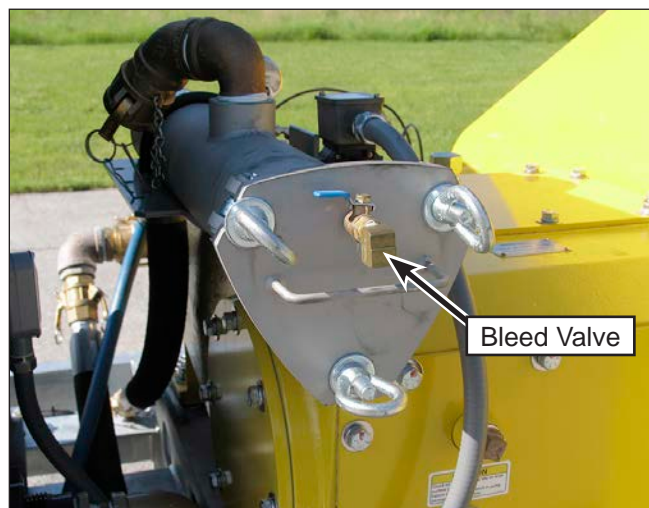

Figure 43: Secondary Filter Bleed Valve.
4. Remove the cap from the secondary filter inlet coupling (Figure 43).
When flushing the system before operation, purge the secondary filter of air. Failure to do so could cause pump cavitation and damage. Use the bleed valve (Figure 43) on the filter to purge the air from the filter.